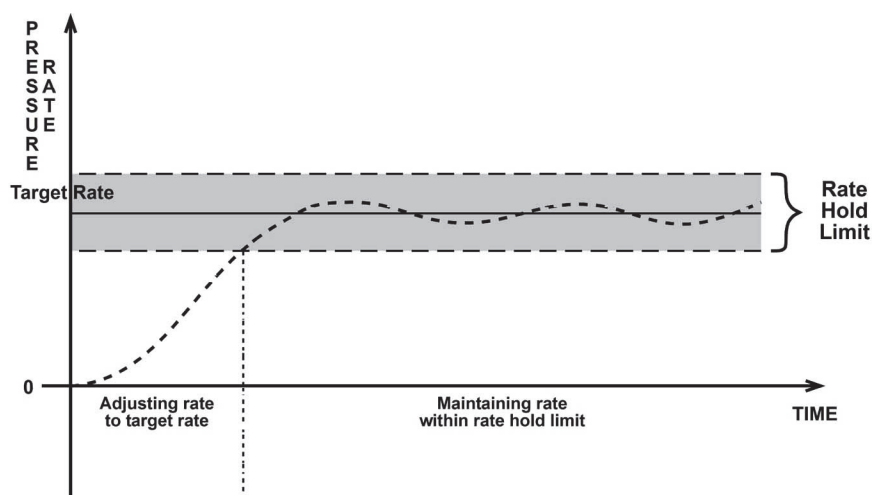

Figure 16. Ramp pressure control operation
Ramp control is designed to set a pressure ramp at a target rate and maintain the rate within a rate hold limit (see Figure 16). This control mode can be used for a variety of calibration and testing functions.
*Note that Figure 16 plots rate of change of pressure, not pressure.